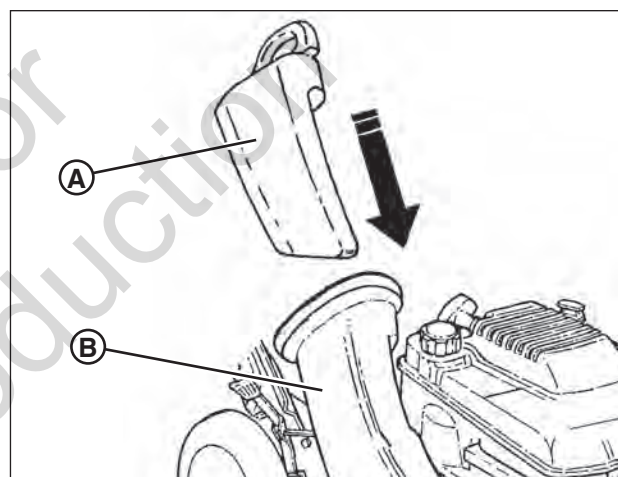

Figure 11: Installing the mulching plug
1. Install the mulching plug (**A**, **Figure 11**) if mulching is desired after the bag adapter is installed. Install the mulching plug completely and securely into the bag adapter (**B**).